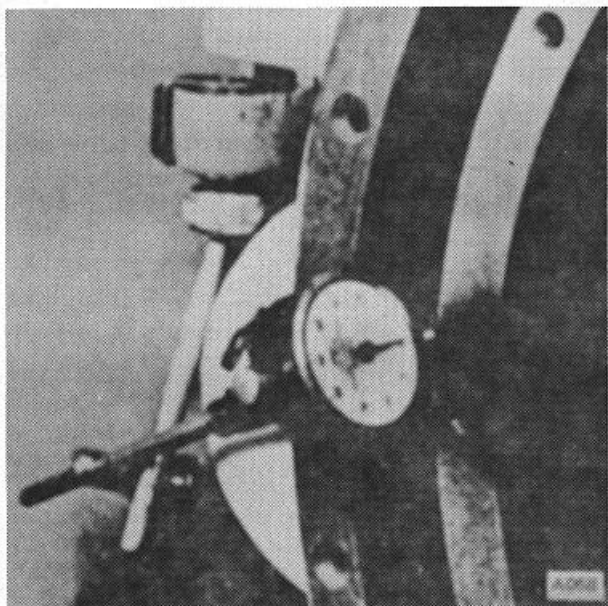

Figure 57.
1. The flywheel is machined and balanced so that the clutch face and locating counterbore will run true with its axis. To be sure that the crankshaft flange, or the counterbore in the flywheel which locates it on the crankshaft, has not been sprung or damaged, mount an indicator on the flywheel housing and check the flywheel for runout. (Fig. 57) Remove spark plugs before checking runout to allow free engine turnover.